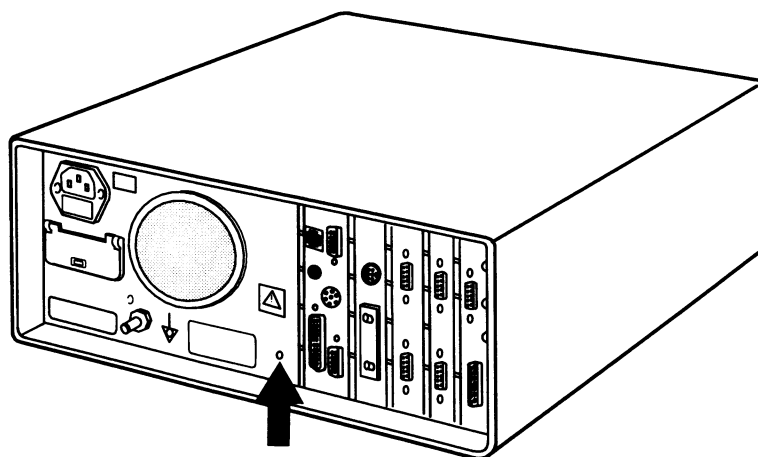

Figure 9 Service reset button
1. Make sure that the power is turned off the monitor and unplug the power cord. Press and hold the service reset button on the rear panel for at least five seconds or until an audible tone is heard (see Figure 9).